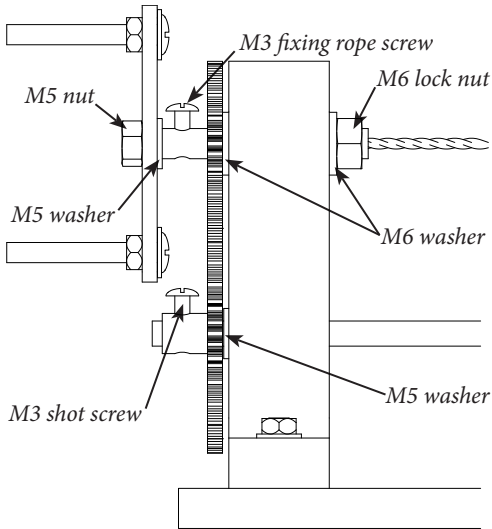

Figure 2.
1. Assemble handles (6), using screws M4×30 and nuts M4 (**fig. 2**).
2. Put handle (6) on the thin end of the main axle, having placed M5 washers in between. Fasten with M5 nut (**fig. 2**).
5. Put transmission gears (4) on both ends of the transmission axle (5) from the outer side of the cheeks (2) having placed M5 washers in between. The sleeve and M3 retainer screw must remain outside the gear (**fig. 2**).
6. Make sure both transmission gears (4) engage master gears (3). Fix them in position using M3 screws in sleeves of transmission gears (**fig. 2**).
7. Depending on type of jobs and if required, insert hooked rods into main axles (3). Rods can be fixed in position using M3 fixing rope screw on the main axle (**fig. 2**).